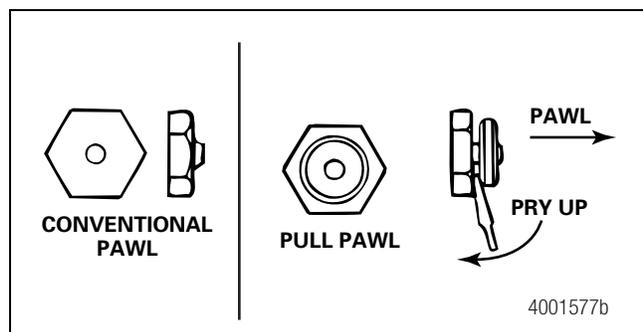

Figure 6.1
7. Remove a conventional pawl. Disengage a pull pawl. Use a screwdriver or equivalent tool to lift the button of a pull pawl assembly at least 1/32-inch (0.8 mm) from the actuator. Figure 6.1.